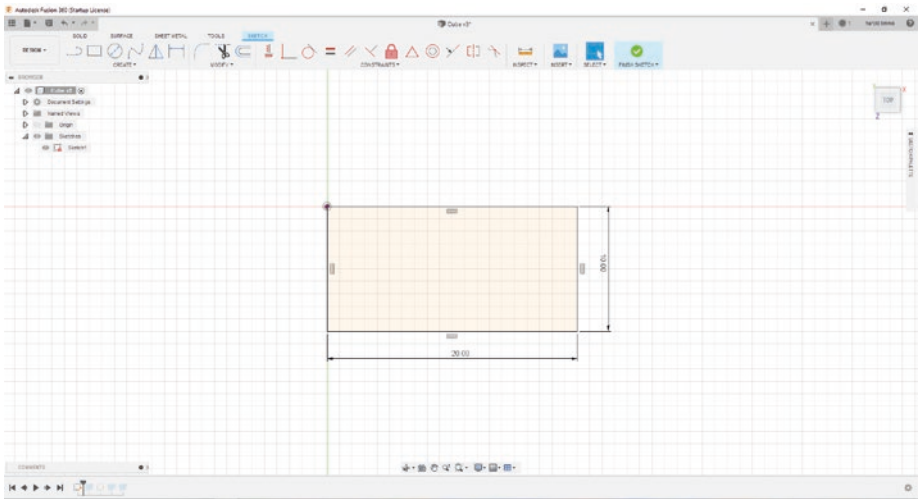

Figure 3-74. *Select Sketch1*
- 30. Double-click the Sketch1 icon in the Design History Bar, and you will be able to edit this sketch. See Figure 3-74.